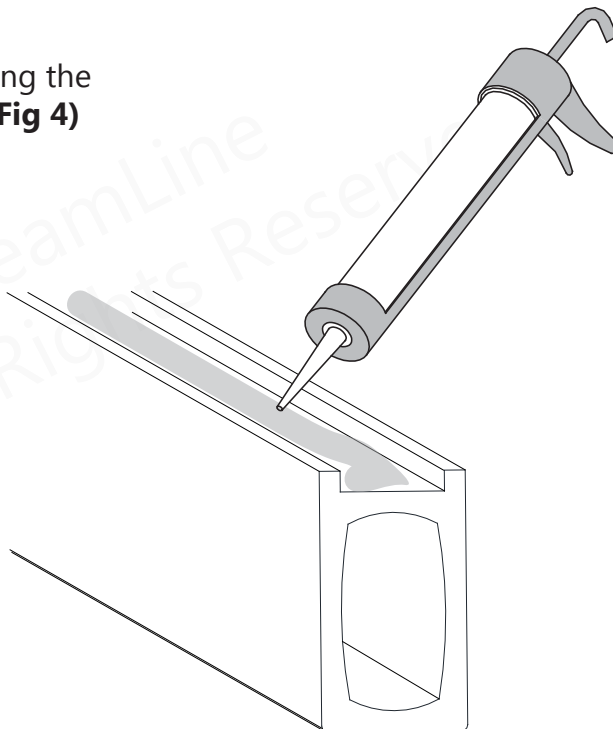

Fig 4
4. Apply silicone into the groove along the bottom of the **Bottom Rail (#08)**. **(Fig 4)**